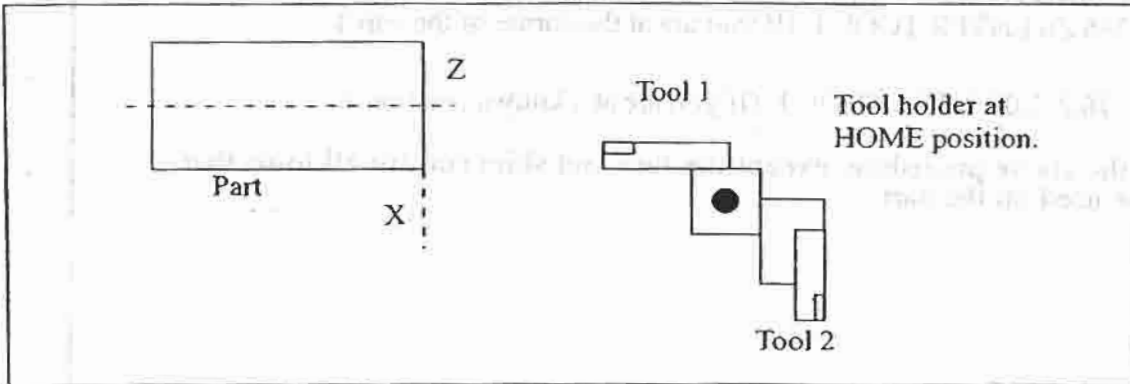

Figure 1
- 1.) Establish a home or tool change position away from the part as shown in Figure 1. Home position can be established using absolute zero (F01) or marker pulse (F02).